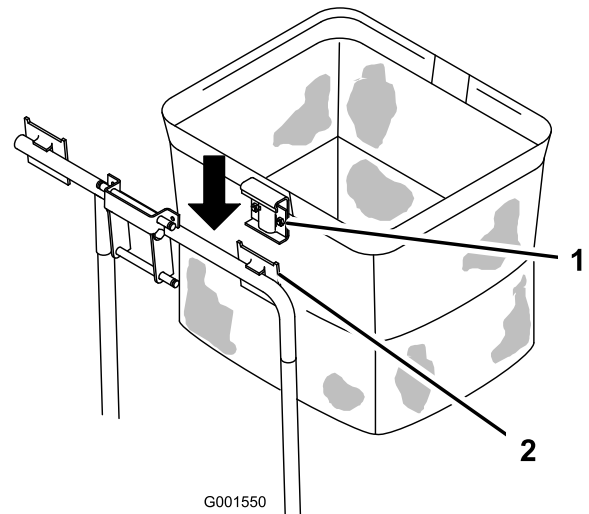

Figure 8
2. Install the bags by sliding the bag frame hooks onto the retaining brackets (Figure 8).